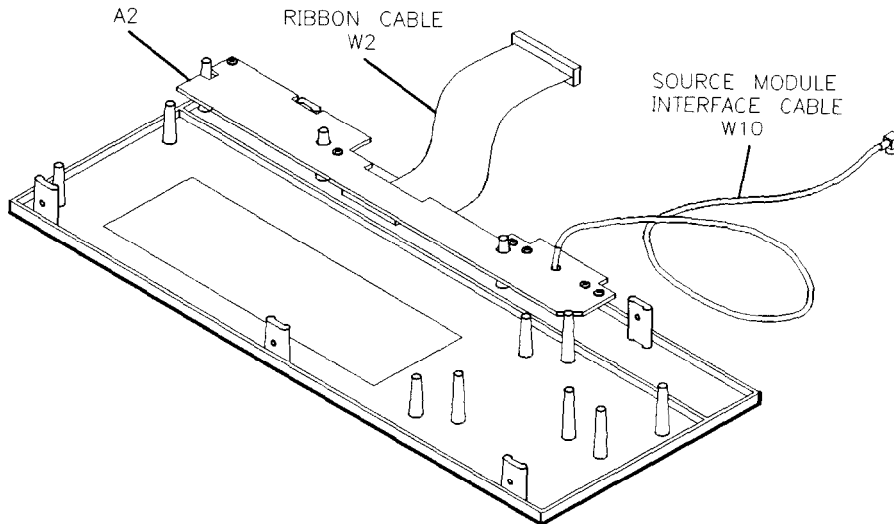

Figure 7-32. Front Panel Coaxial and Ribbon Cable Locations
4. Disconnect coaxial cable W10 at the A10J2 SMB connection on the A10 ALC board assembly. Disconnect ribbon cable W2 at the A22J1 connector on the A22 motherboard assembly. Refer to Figure 7-32.